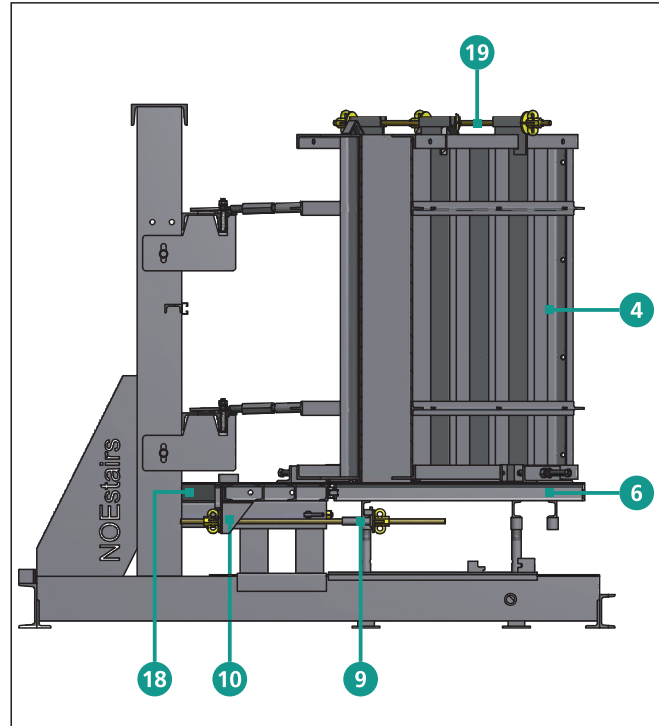

Figure 13.2
2. Connect the bottom of the end stair longitudinally by the locating pin and install tie rods (see Figures 13.2 and 13.3).